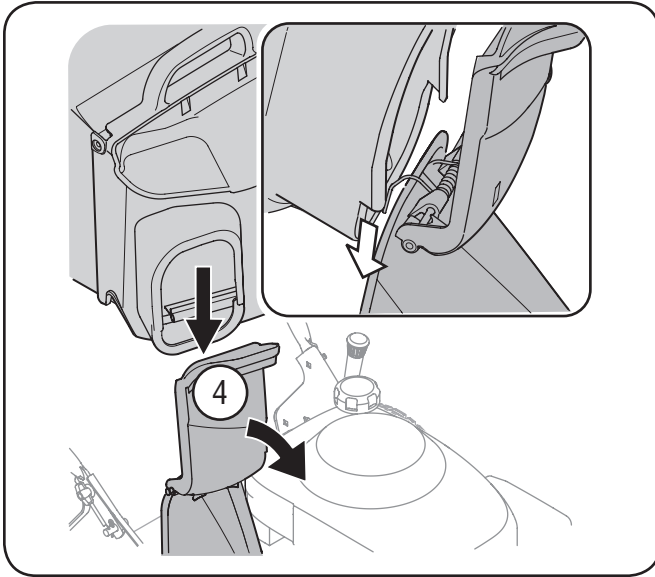

Figure 3-6
- Lift chute door on the grass bag adapter and slide grass bag onto the adapter. See Fig. 3-6.